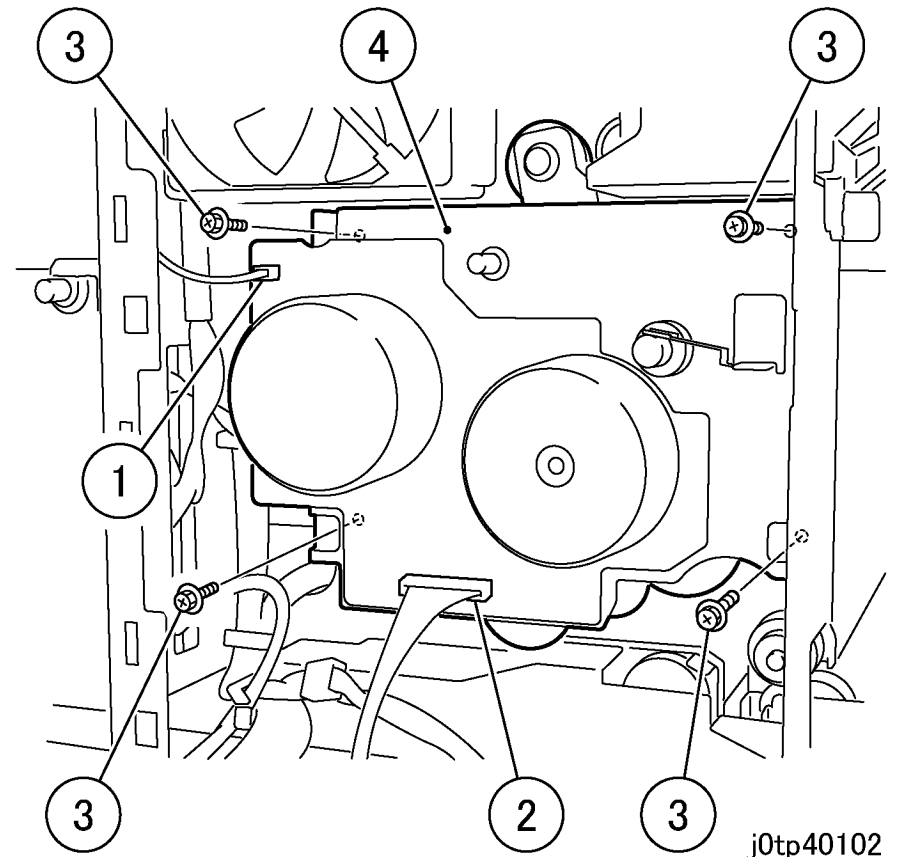

Figure 5 Removing the Main Drive Assembly (j0tp40102)
8. Remove the Main Drive Assembly. (Figure 5)